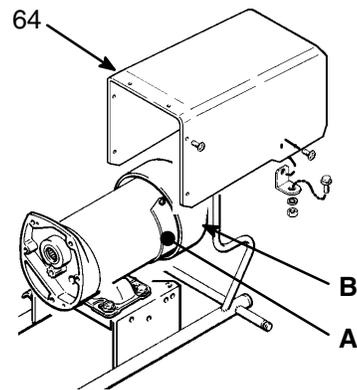

Fig 20-1
Remove the pressure control cover. Remove the motor shield (64). Remove the fan cover (B) and the inspection covers (A). See Fig 20-1.